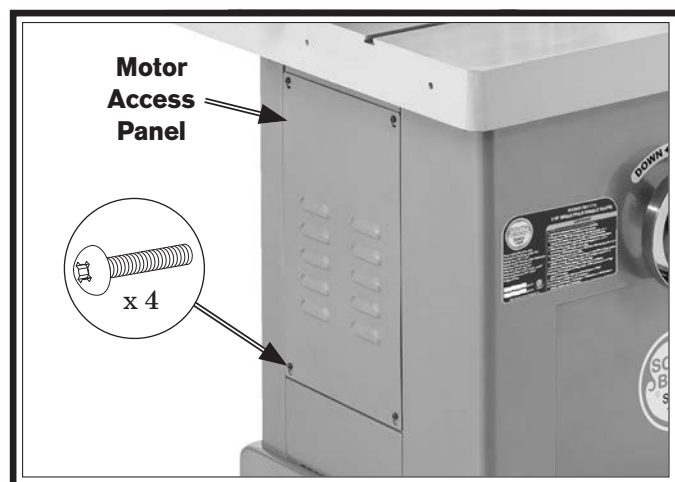

Figure 95. Location of motor access panel and securing screws.
4. Loosen (4) Phillips head screws enough to remove motor access panel (see **Figure 95**).